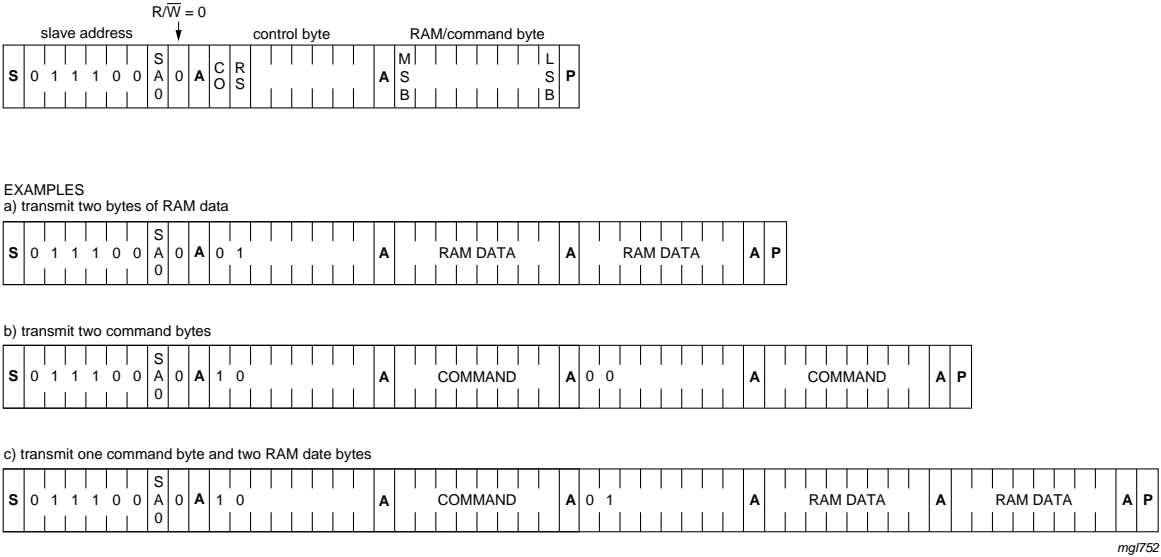

Fig 21. I²C-bus protocol
The I²C-bus protocol is shown in Figure 21. The sequence is initiated with a START condition (S) from the I²C-bus master which is followed by one of two possible PCA85132 slave addresses available. All PCA85132 with the corresponding SA0 level acknowledge in parallel to the slave address, but all PCA85132 with the alternative SA0 level ignore the whole I²C-bus transfer.